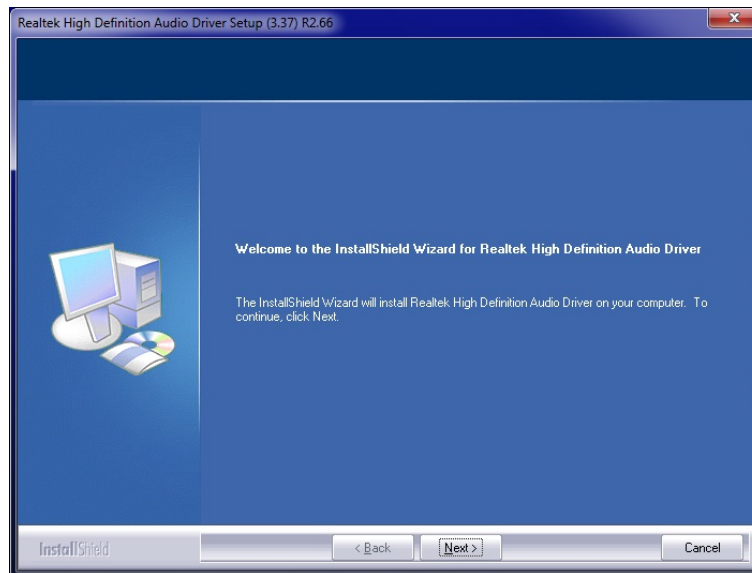

Figure 6-24: InstallShield Wizard Welcome Screen
Step 5: Once initialized, the **InstallShield Wizard** welcome screen appears (**Figure 6-24**).